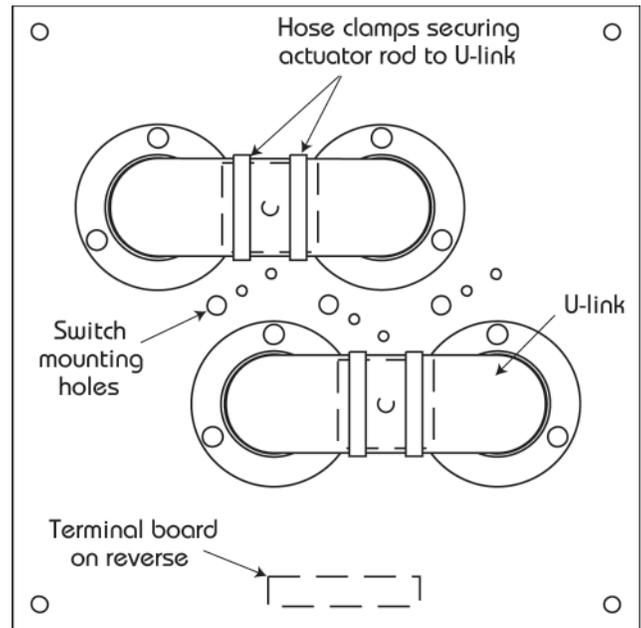

Figure 1. Patch Panel, "top" view
- b. Each switch mounting location has three holes (see figure 1). Install the switch on the reverse side of the panel, with the switch plunger directly under the large hole. Mount the switch bracket to the panel using the bolts and nuts through the two smaller holes. Tighten the nuts and bolts securing the switch to its mounting bracket.
- c. Each switch mounting location has three holes (see figure 1). Reinstall the U-link so that the actuator rod extends into or directly over the large hole in the panel. Tighten the hose clamps securing the U-link to the patch panel.